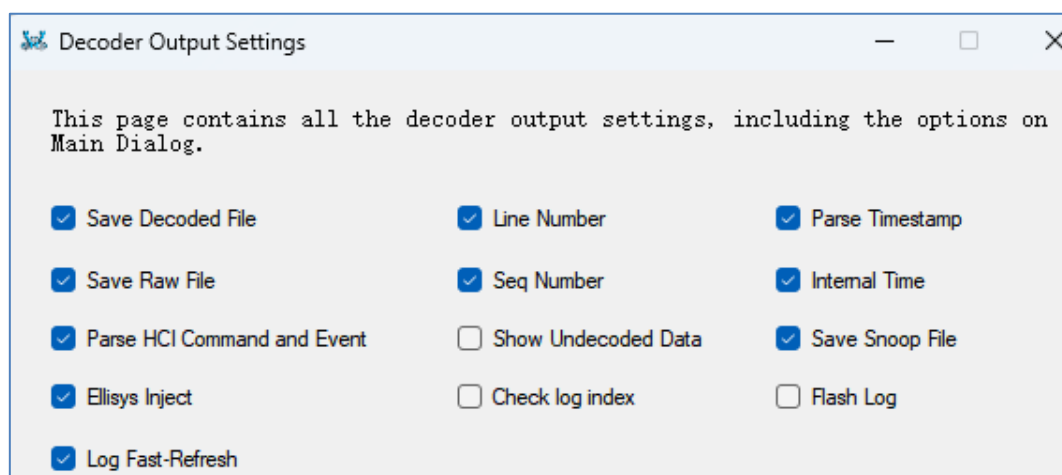

Figure 4-4 Decoder Output Settings From
2. All parameters can be configured on the “Decoder Output Settings” page (Figure 4-4).
3. The method of using the "Decoder Output Settings" page: Select "Setting-Decoder Output" from the menu bar (Figure 4-4).